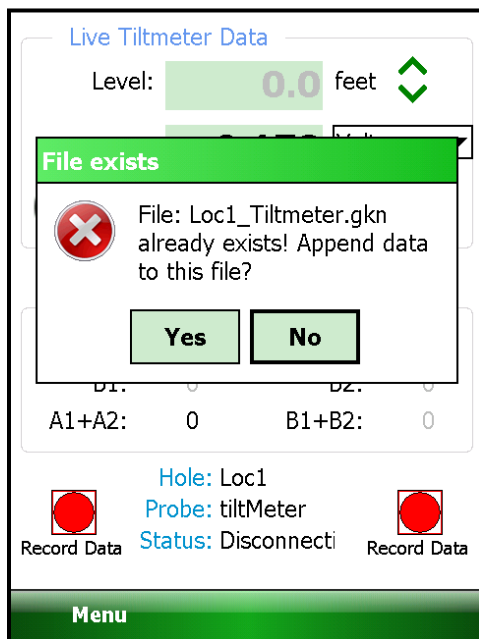

Figure 92 - File Exists Dialog
12. After tapping “Save” the GK-604D IRA will determine if the file exists. If this is a new file then the data will be written to it in a format similar to the standard Inclinator format. If a file of the same name already exists then the dialog shown in Figure 92 will be displayed.
9. After tapping “Save” the GK-604D IRA will determine if the file exists. If this is a new file then the data will be written to it in a format similar to the standard Inclinator format. If a file of the same name already exists then the dialog shown in Figure 92 will be displayed.